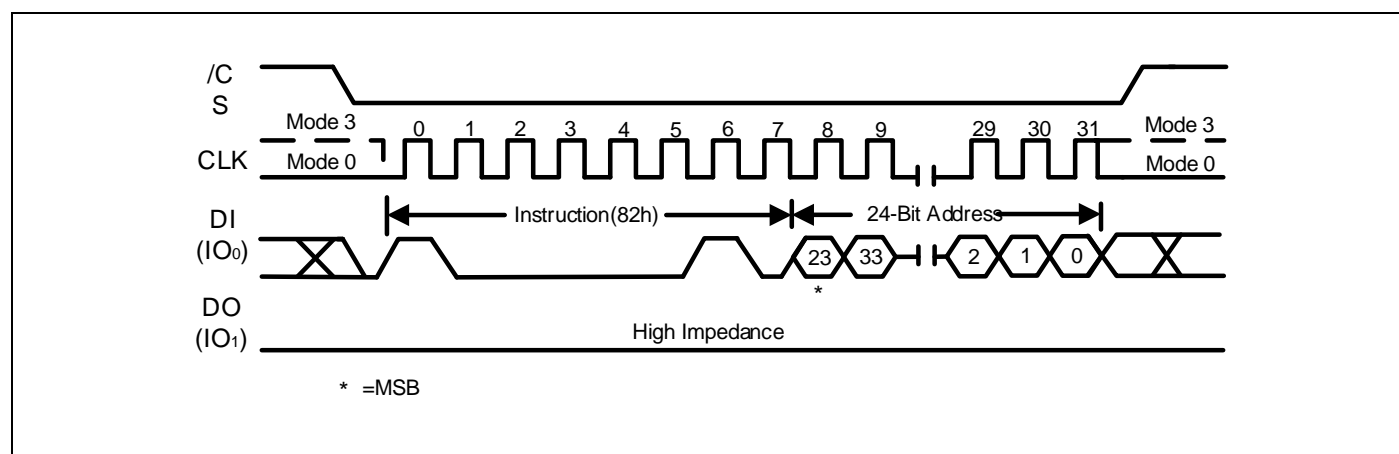

Figure15. Mini Sector Erase Sequence Diagram
The Mini Sector Erase command sequence: CS# goes low → sending Sector Erase command → 3-byte address on DI → CS# goes high. The command sequence is shown in Figure15. CS# must be driven high after the eighth bit of the last address byte has been latched in; otherwise the Mini Sector Erase (MSE) command is not executed. As soon as CS# is driven high, the self-timed Mini Sector Erase cycle (whose duration is t_{MSE}) is initiated. While the Mini Sector Erase cycle is in progress, the Status Register may be read to check the value of the Write in Progress (BUSY) bit. The Write in Progress (BUSY) bit is 1 during the self-timed Mini Sector Erase cycle, and is 0 when it is completed. At some unspecified time before the cycle is completed, the Write Enable Latch (WEL) bit is reset. A Mini Sector Erase (MSE) command applied to a sector which is protected by the Block Protect (SEC, TB, BP2, BP1, and BP0) bit (see Table 1-6) is not executed.
The Sector Erase command sequence: CS# goes low → sending Sector Erase command → 3-byte address on DI → CS# goes high. The command sequence is shown in Figure15. CS# must be driven high after the eighth bit of the last address byte has been latched in; otherwise the Sector Erase (SE) command is not executed. As soon as CS# is driven high, the self-timed Sector Erase cycle (whose duration is Tse) is initiated. While the Sector Erase cycle is in progress, the Status Register may be read to check the value of the Write in Progress (BUSY) bit. The Write in Progress (BUSY) bit is 1 during the self-timed Sector Erase cycle, and is 0 when it is completed. At some unspecified time before the cycle is completed, the Write Enable Latch (WEL) bit is reset. A Sector Erase (SE) command applied to a sector which is protected by the Block Protect (SEC, TB, BP2, BP1, and BP0) bit (see Table 1-6) is not executed.